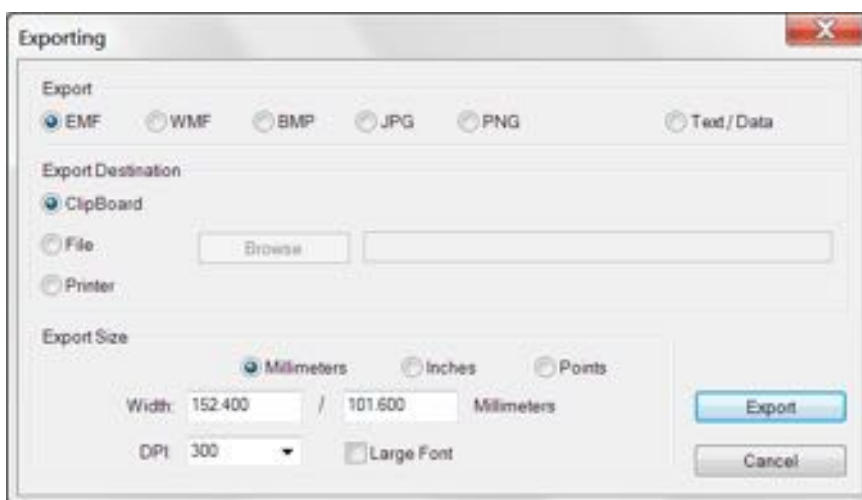

Figure 9-68: Exporting Dialog Box
2. In the **Exporting** dialog box (see Figure 9-68), select the export options and click **Export**.